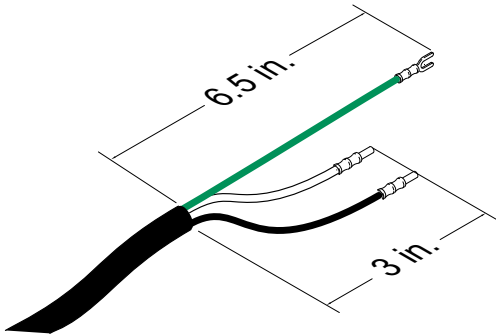

FIG. 3: Power Cord
- Add ferrules as necessary. See **FIG. 3**.